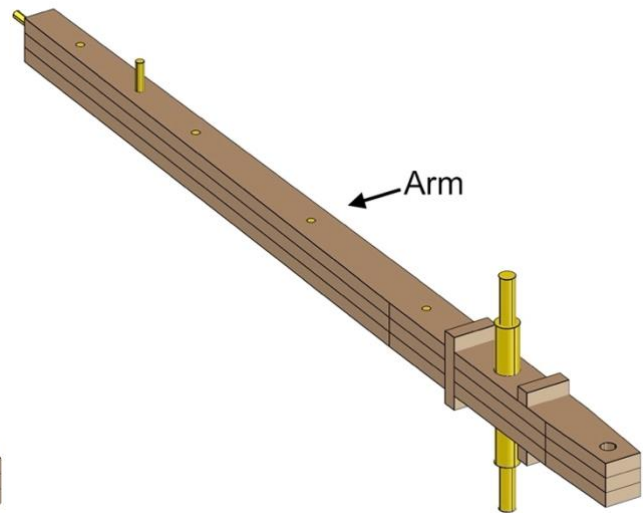

Fig. 68
- *Fig. 68* shows the completed process.